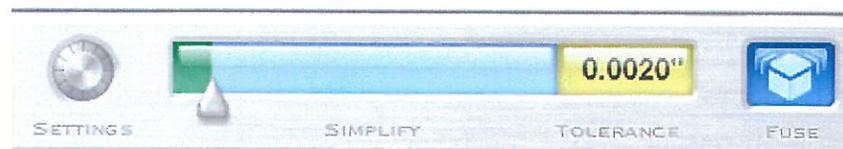

Figure 10: Fuse Options
- **FUSE** allows a user to combine selected scans into one large scan. This is useful if you would like to do the top and bottom of an object as that is not normally picked up in the 360° scan. To use this feature, select **FUSE**, and then select the scans you want to fuse together at the bottom of the screen. You can modify the **TOLERANCE** at the top of the screen if needed. The **TOLERANCE** is a simplification level, so 0.00" will not simplify the data at all, and increasing the simplification will simplify your model and make the file size smaller. It will perform intelligent simplification, which keeps more points in detailed areas and fewer points in larger planes. Once complete, click **FUSE**. A new family containing the Fused parts is created. For additional features, please see a SpaceShop staff member (Figure 10).